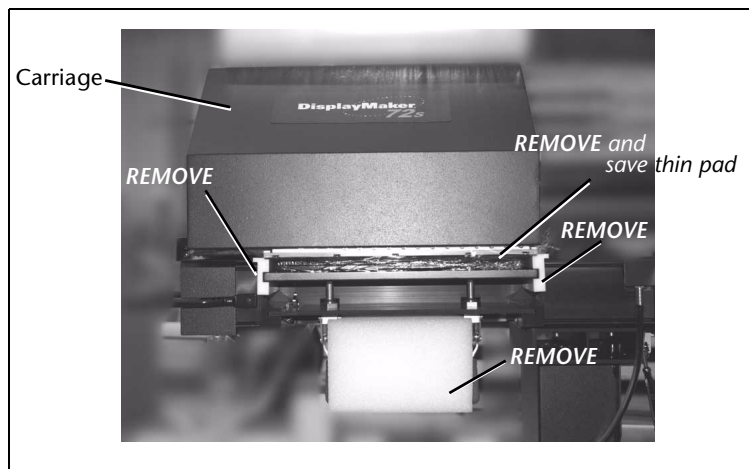

Fig. 1-17. Capping station as shipped
2. Remove the white shipping blocks on the sides of the capping station, and the white shipping pad between the capping station levers as shown in Fig. 1-17.